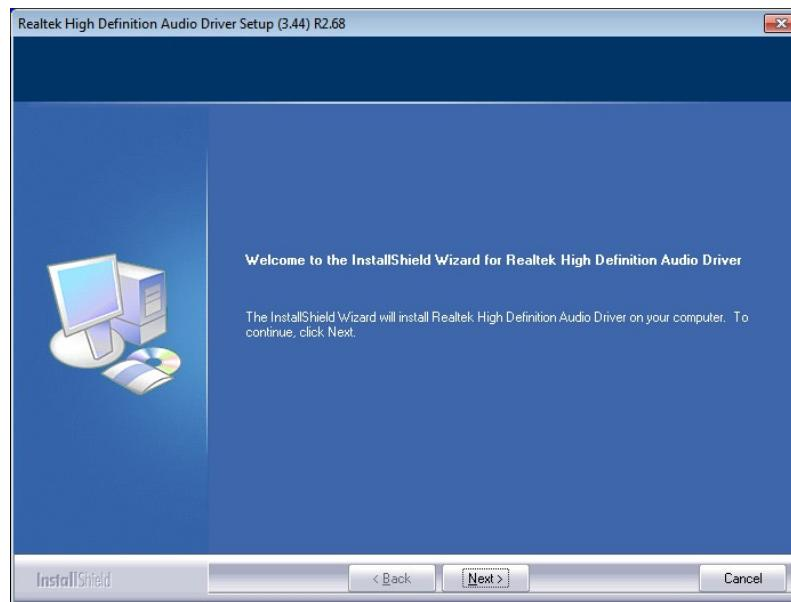

Figure 6-20: Audio Driver Welcome Screen
Step 5: Once initialized, the **InstallShield Wizard** welcome screen appears (**Figure 6-20**).